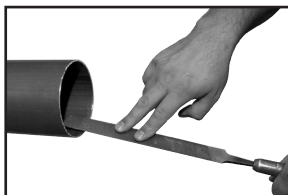

Figure 2: Deburr inside diameter using a half-round file
2. Deburr the tube inside diameter using a half-round file or deburring tool. Remove any copper shavings or filings (Figures 2 & 3).